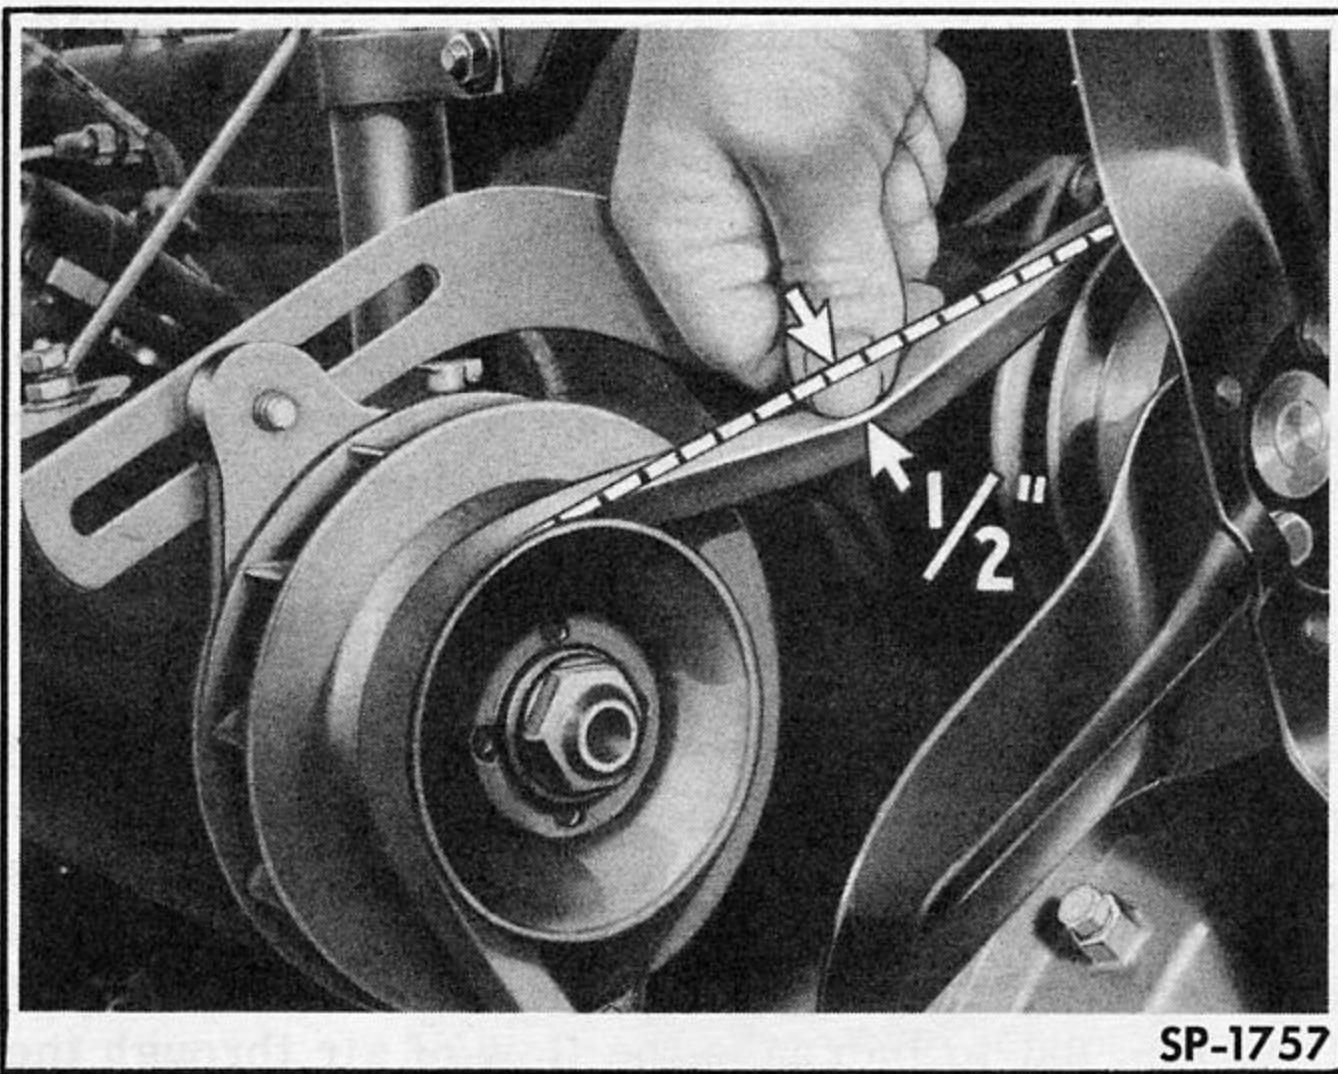

Fig. 92—Fan Belt Adjustment
2. Swing generator away from engine and tighten adjusting link bolt when belt tension is correct. Proper fan belt tension is obtained when thumb pressure exerted midway between fan and generator pulleys deflects the belt 1/2 inch as shown in Fig. 92